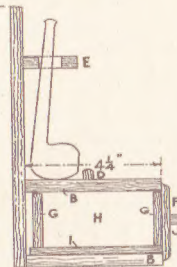

Fig. 2—Side elevation
The rounded-top fillet (D) which is glued and pinned down to the top of the box is placed  $2\frac{1}{2}$  ins. out from the main back to the front edge, thus allowing the pipes to rest, as shown in the side view Fig. 2, without falling forward.